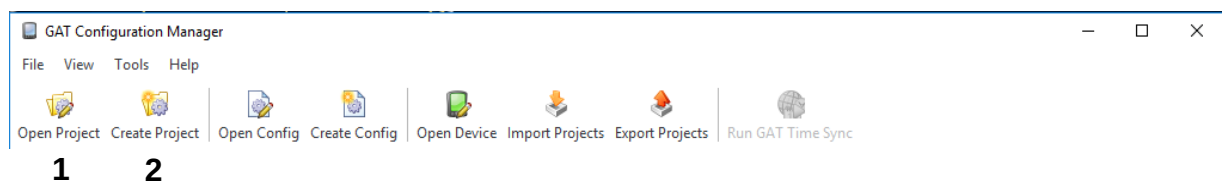

Figure 3.2 – GAT Config Manager – Project setup
- ▶ Click on the "Open Project" icon (1 in Figure 3.2) to find an existing project.
- ▶ Alternatively, click on the "Create Project" icon (2 in Figure 3.2) to start a new project.